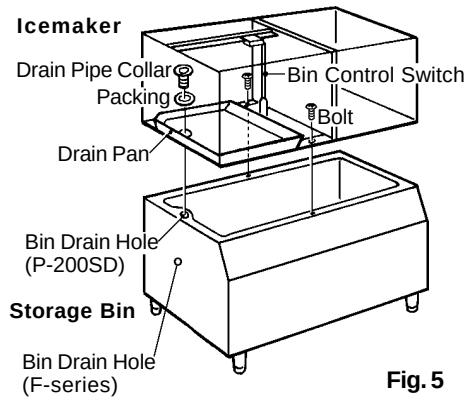

Fig. 5
5) Place the icemaker on the top of the Storage Bin. Be careful not to damage the icemaker frame and the Bin Control Switch. See Fig. 5.
6) Secure the icemaker with the two bolts provided. See Fig. 5.
7) Align the Storage Bin drain hole and the drain pan hole. Insert the Packing (bin accessory) and fasten the Drain Pipe Collar (bin accessory). See Fig. 5.